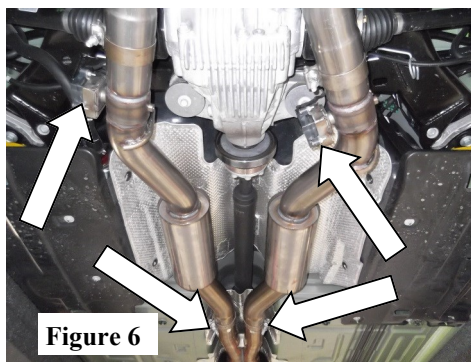

Figure 6
2. Place a clamp over the expanded end of the **L/H (Front Muffler or Intermediate Pipe) Assembly** and insert to left-side **X-Pipe Assembly** outlet. Repeat for **R/H (Front Muffler or Intermediate Pipe) Assembly** to right-side **X-Pipe Assembly** outlet. (See Fig. 6) **Do Not** tighten the clamps. Insert hangers into factory rubber isolators.
3. Connect (2) wire harnesses to the (installed) actuators.